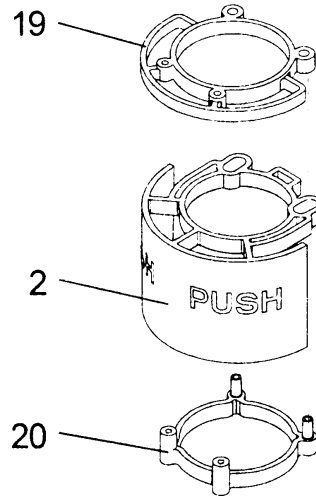
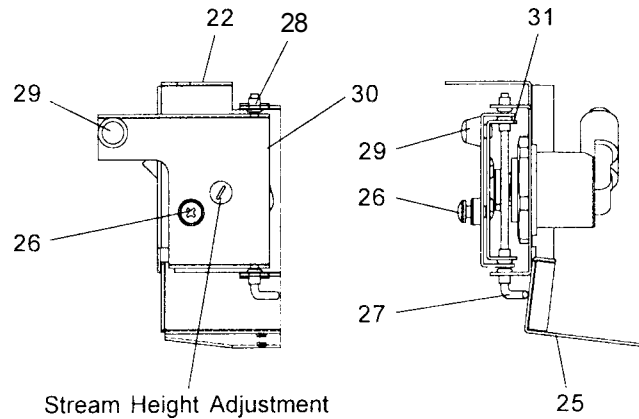

Figure 20 – Push Arm Mechanism
Figure 21 – Regulator Mounting Mechanism
- Check stream height from bubbler. Stream height is factory set at 35-40 PSI. If supply pressure varies greatly from this, remove items 2, 19, and 20 (push arm and the bottom and the top actuator plates – Figure 20) by removing the screws holding assembly together and adjust the screw on the regulator (Item 14 – Figs. 21& 22). Clockwise adjustment will raise stream height and counterclockwise movement will lower stream height. For best adjustment, stream height should be approximately 1-1/2" (38mm) above the bubbler guard. (See Figure 16).
- Mount lower panel. Loosen the two (2) #10-24 x 5/8" (16mm) screws at frame bottom lip. Slide upper tongue of lower panel under lower edge of already installed upper panel. Tighten previously loosened screws securely.